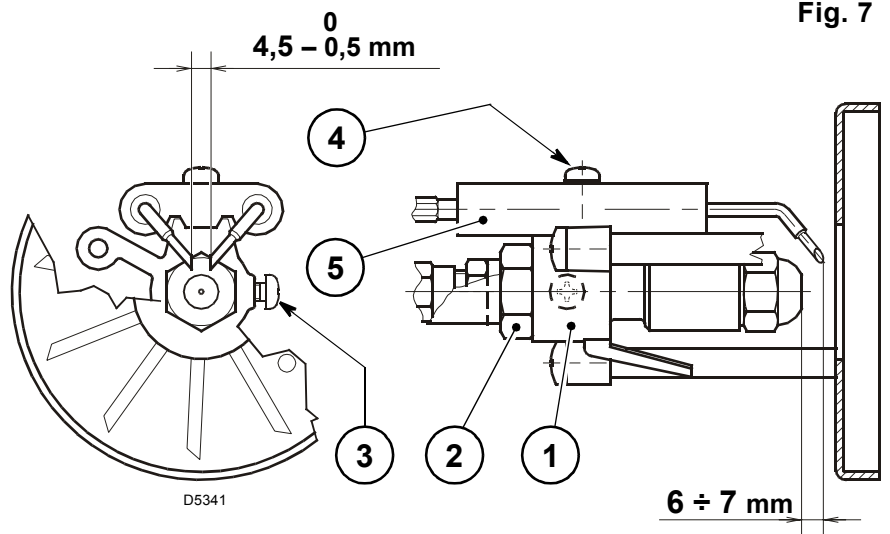

Fig. 7
3.4 ELECTRODES ADJUSTMENTS, (see fig. 7)